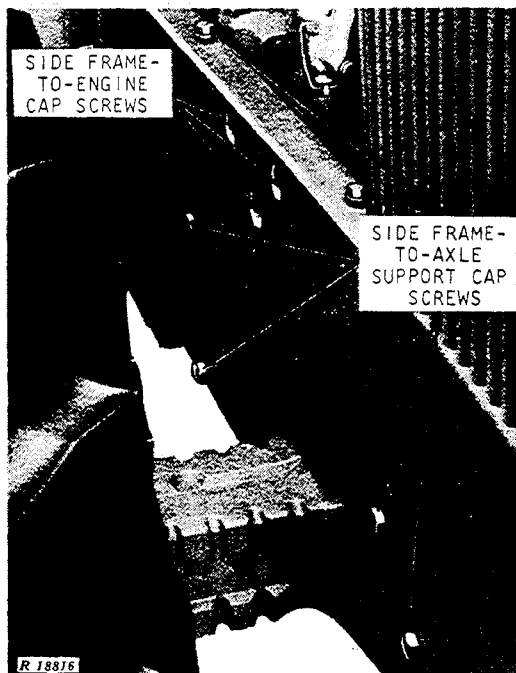

Fig. 12-Engine and Axle Support Cap Screws
Loosen the side frame-to-front axle support cap screws (Fig. 12) to prevent excessive binding of side frames during removal. Remove the cap screws fastening the side frames to engine mounting pads.
5. Remove the six cap screws on each side frame fastening the front axle support to the engine side frame (Fig. 12).